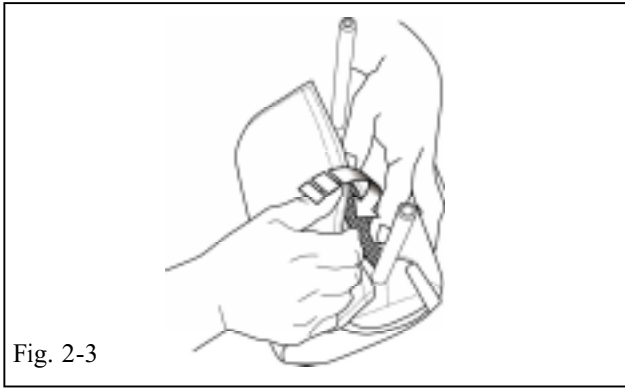

Fig. 2-3
- (c) Velcro the two sides of the headrest together at the center underneath the headrest (Fig. 2-3.)